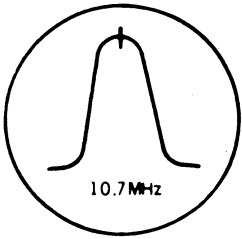

Fig. 4
| (6) | High side thru. 0.001μF to point ▼ Negative side to point ▼ | 10.7 MHz | Point of non-interference. (on/about 90 MHz). | Connect vert. amp. of scope to point ▼ Negative side to point ▼ | T1 (FM 1st IFT) Adjust for maximum amplitude. (Refer to fig. 4). |